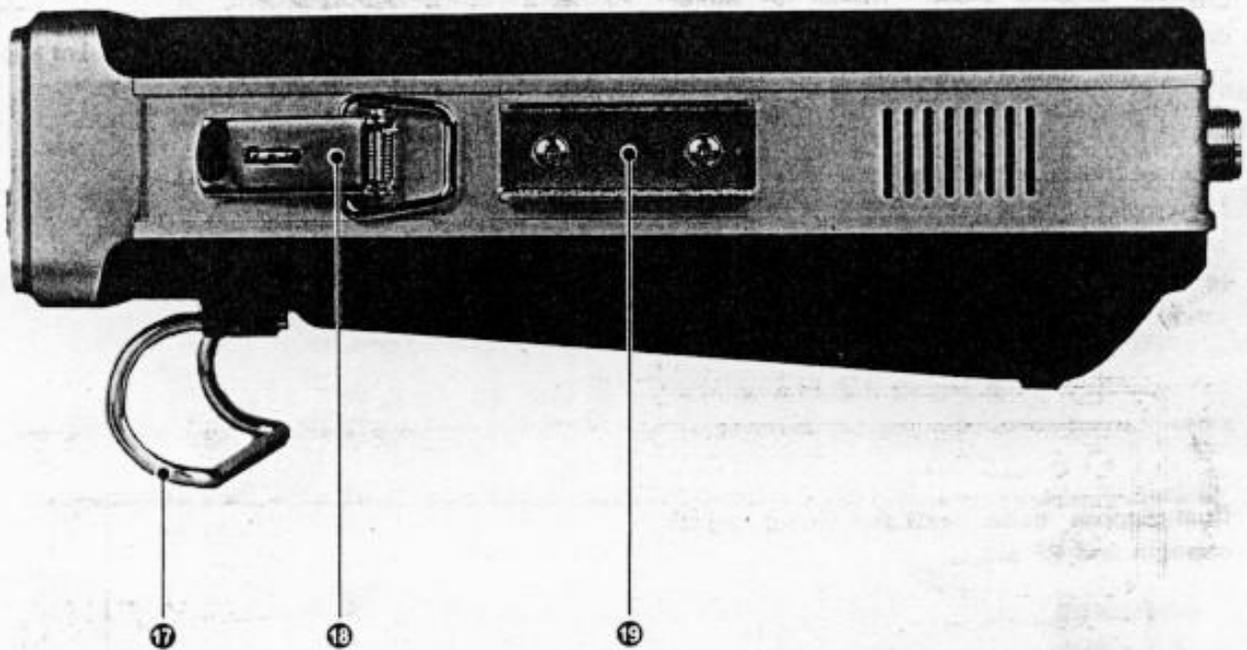

Fig. 3
2.3 SIDE PANEL (Refer to Fig. 3)
If you operate the TR-8300 as a fixed station, attach the supplied Stand-off bracket (7) to it as illustrated in Fig. 3. The TR-8300 is designed so as to be used with a DC power supply having a current capacity of around 3.5A at the rated operating voltage of 13.8V.